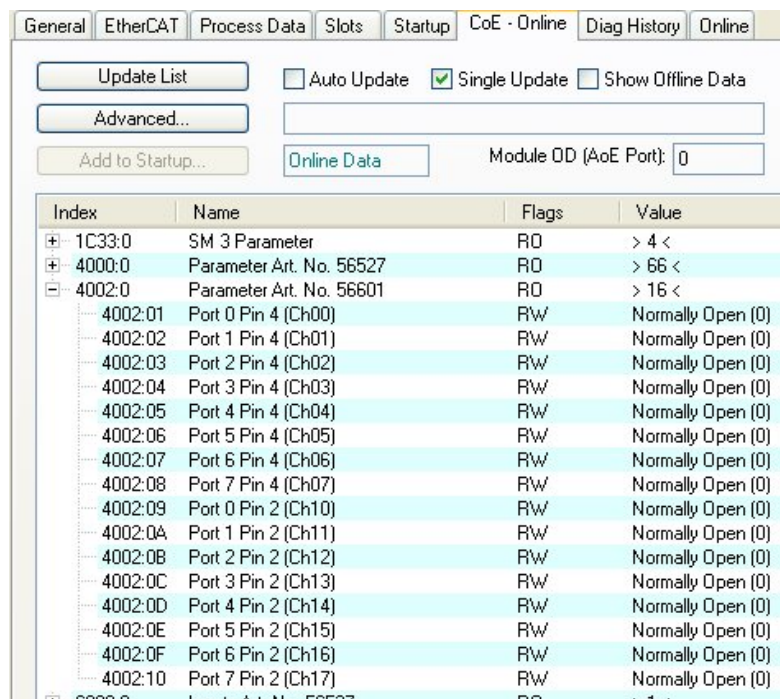

Fig. 20 Configuring the outputs
- ➔ Configure the outputs in the **CoE-Online** tab, **Object 0x40xx** (see Fig. 20).